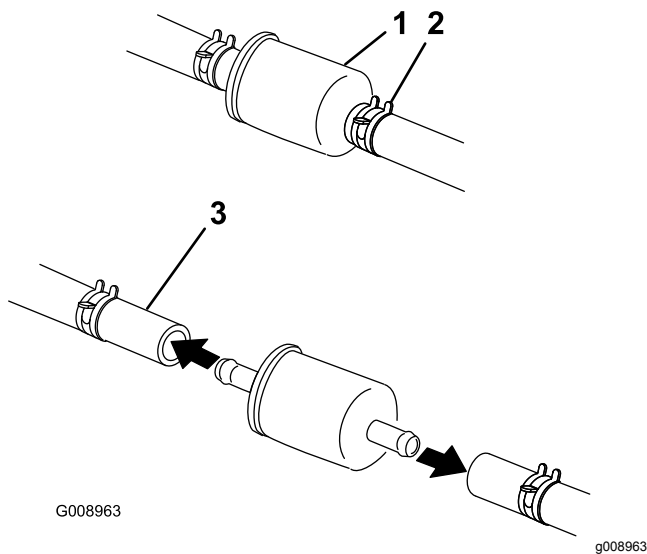

Figure 63
4. Close the fuel-shutoff valve under the seat (Figure 63).
5. Squeeze the ends of the hose clamps together and slide them away from the filter (Figure 63).
7. Install a new filter and move the hose clamps close to the filter (Figure 63).